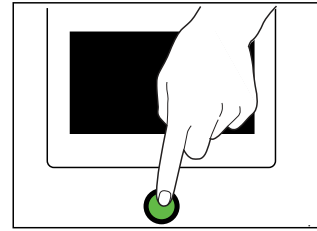

Fig. 24 - Dishwasher power switch
4. Push green start button, (Fig. 24).